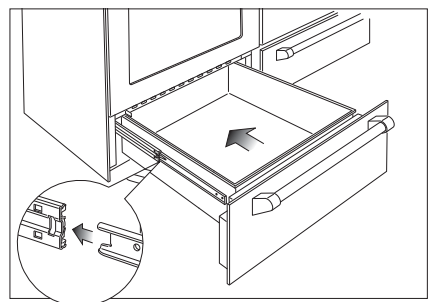

Fig. 8 Replacing the left drawer
- 6 Replace the left drawer (Fig. 8):